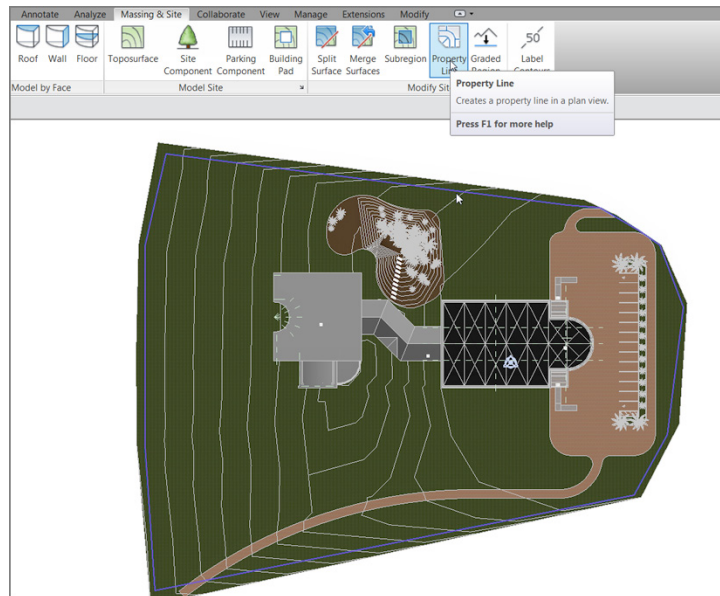

FIGURE 18.24: Adding a property line
2. On the Massing & Site tab, click the Property Line button, as shown in Figure 18.24.
4. Draw a series of lines around the perimeter (see Figure 18.24). Close the sketch by returning to the starting point, but note that you don't have to close a property line.